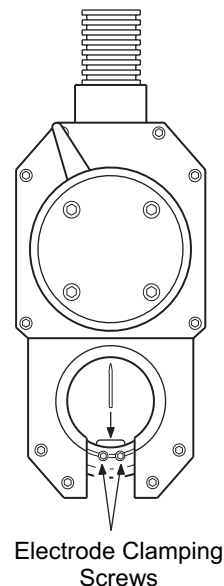

Figure 8 Electrode Installation
2. Use **JOG** to position the rotor as shown in Figure 8.